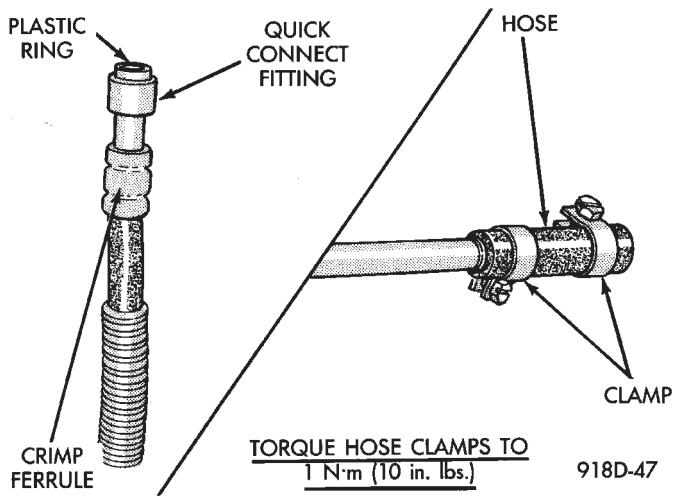

Fig. 2 Quick Connect Fuel Fittings
Some fuel lines have quick connect fittings. The fittings are designed to speed up the installation and removal of the fuel lines (Fig. 2).
(5) To remove the fuel tube nipple from a quick connect fitting, pull back on the fitting while pushing in on the plastic ring (Fig. 2). To aid in disassembly, an open end wrench may be used to push the plastic ring in.
(6) Cover the quick connector to prevent contamination.